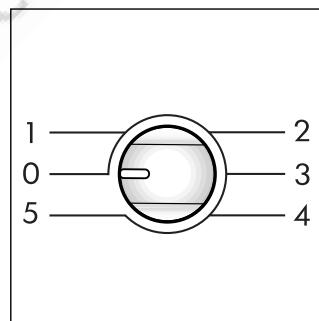

Fig. 7
Proceed as follows: turn the thermostat knob (H) to the setting "0" (Fig. 7). Then wrap all the frozen and fast-frozen food in newspaper, placing it either in the refrigerator or in a cool place. Leave the freezer door open so that the frost thaws completely. You can speed this process by placing containers of warm water in the compartment.